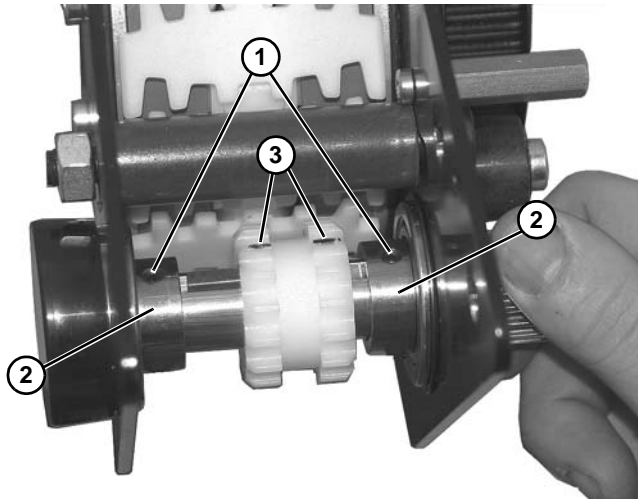

Figure 154
14. Loosen two set screws (**Figure 154, item 1**) on two bearings (**Figure 154, item 2**).
15. Loosen sprocket set screws (**Figure 154, item 3**).